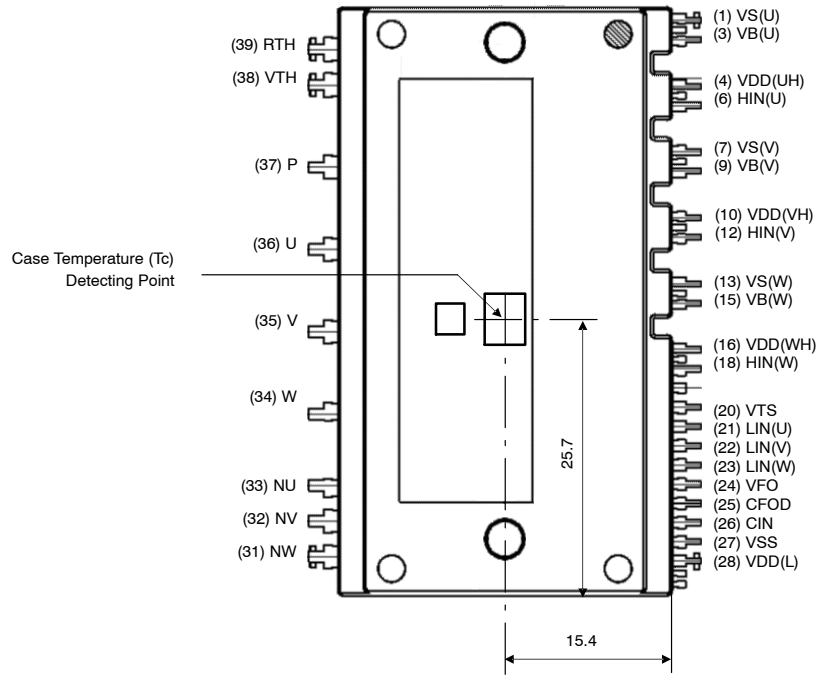

Figure 10. Case Temperature (Tc) Detecting Point
8. For the measurement point of case temperature (T_c), please refer Figure 10.